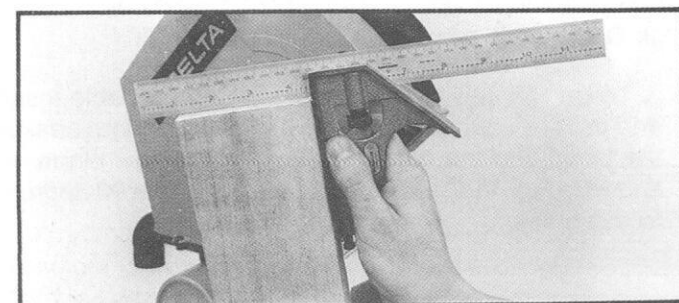

Fig. 22
3. Using a square, check to see if the piece of wood was cut at 90 degrees, as shown in Fig. 22.